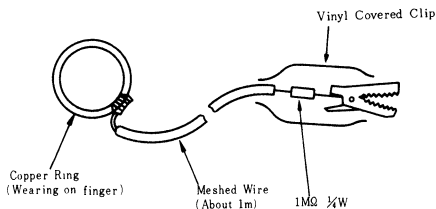

Fig. 1 An Example of Grounding to Human Body
- (1) Keep all device terminals in a conductive mat to maintain equi-potential during transportation and storage. A conductive mat called "MOSPAK" is commercially available. Unless otherwise specified, all Hitachi ECL's are shipped in plastic magazines. These should not be re-used because re-use greatly diminishes the effectiveness of electrostatic protection.
- (2) When handling IC's for inspection or connection, grounding must be provided as shown in Figure 1. The 1M ohm resistor protects the handler from electric shock.